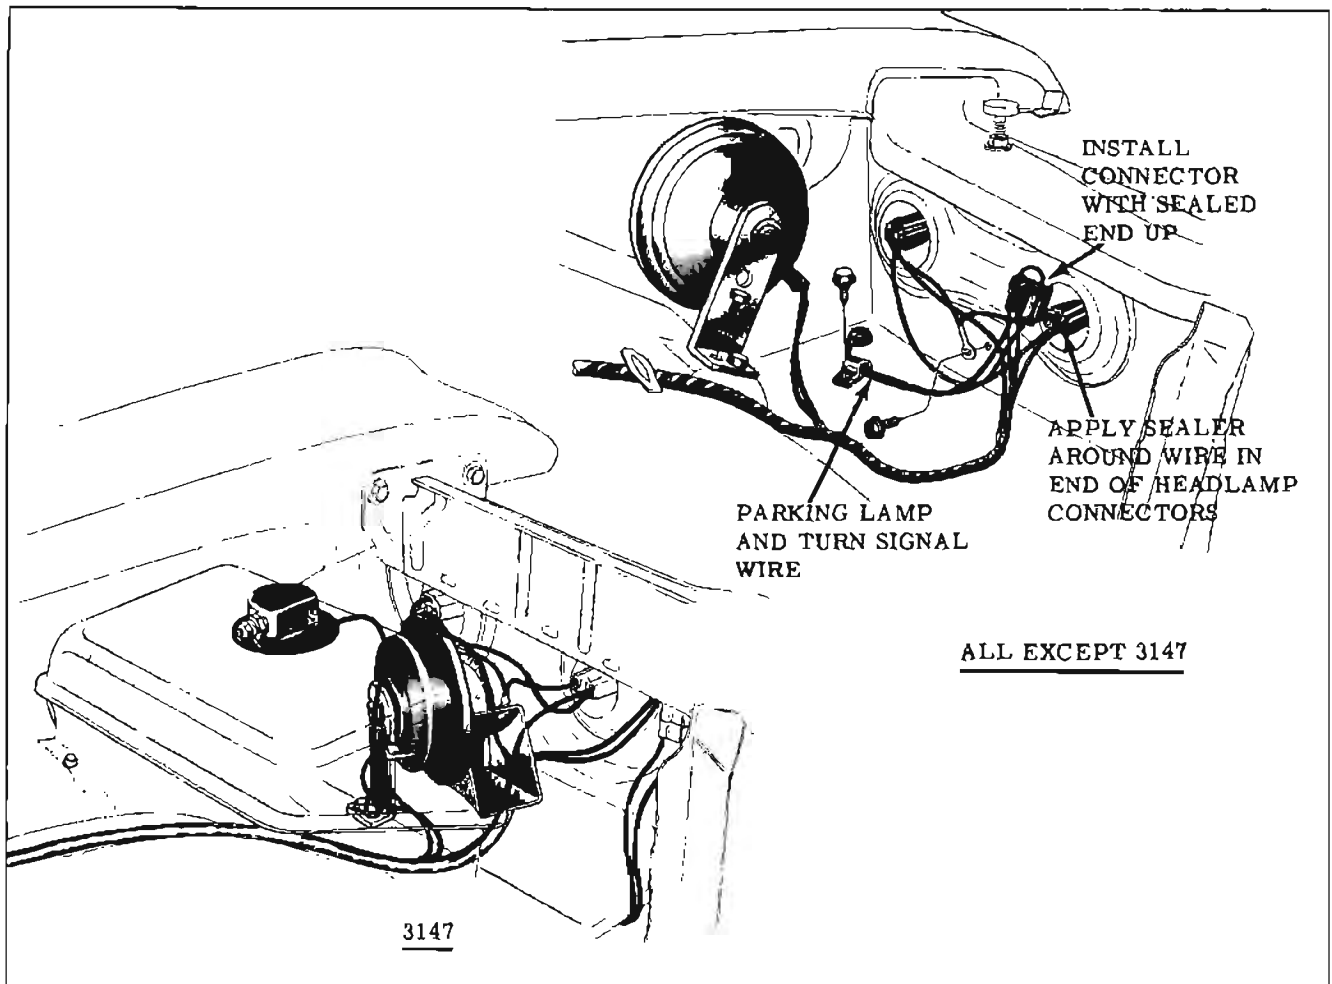

Fig. 12-105 Headlamp Wiring
1. Disconnect both headlamp connectors and remove the main wiring harness connector from the retaining clip, then remove ground screw. (Fig. 12-105)
3. Disconnect electrical plug from back of lamp. (Fig. 12-105)